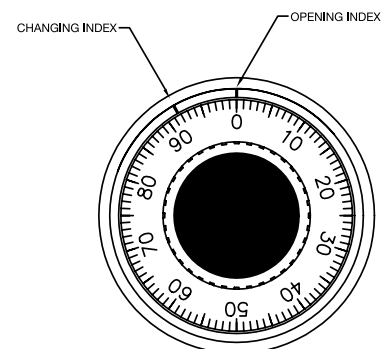

Figure 3
5. Mount the dial ring centered on the through hole, and attach to the safe door using the two mounting screws supplied with the dial assembly. The opening index reference mark must be in the twelve o'clock position (Figure 3).
2. Stop when 50 lines-up with the Opening Index (Figure 3).